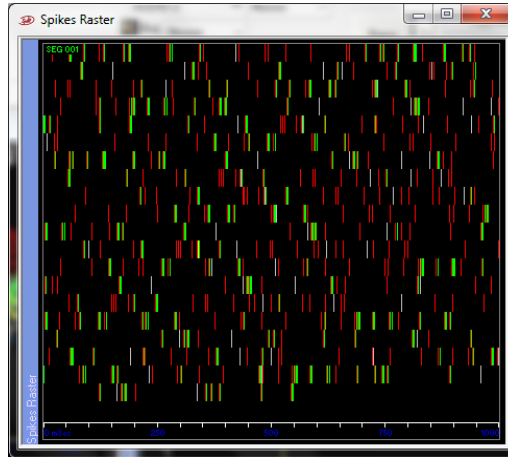

Figure 85: Spikes Raster Window
5. From the **Windows List** button , select the spikes raster window. The spikes raster window appears (*Figure 85*).
The Interspike Interval window appears (*Figure 85*).